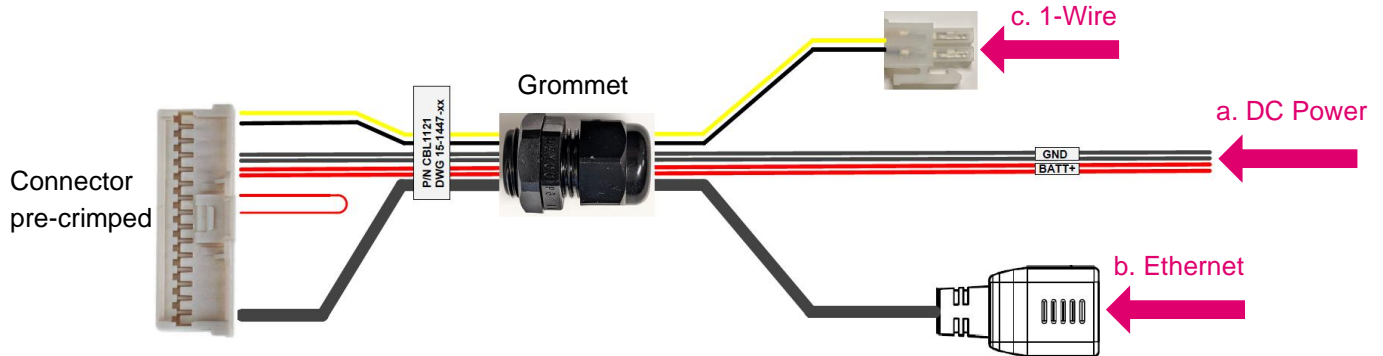

Figure 27: Cable Harness
5. Obtain the cable harness (CBL1121 or other models) provided in the adaptor kit which looks similar to Figure 27, then: